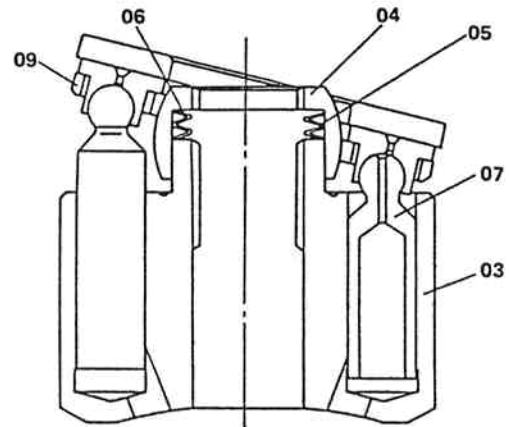

Fig.5 Cylinder Block Subassembly
- 3) Install oil seal (33) in the bore of front cover (15). Apply grease lightly to the lip section of the oil seal, and install the front cover with oil seal (33) on the case being careful not to damage the oil seal lip. Tighten capscrews (18) to the specified torque.
- 4) Insert shoe plate (10) into case (13) so that the largely chamfered side of the shoe plate faces the case.
- 5) Assemble piston (07), cylinder block (03), keeper plates (09), spherical bushing (04), spring (05) and shim (06) as shown in Figure 5. Aligning the phases of the cylinder spline teeth and of the spherical bushing, insert the cylinder block assembly